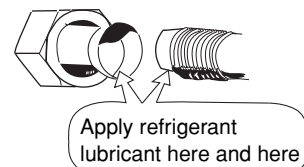

Fig. 12
- Be sure to apply refrigerant lubricant to the matching surfaces of the flare and union before connecting them together. This is effective for reducing gas leaks. (Fig. 12)